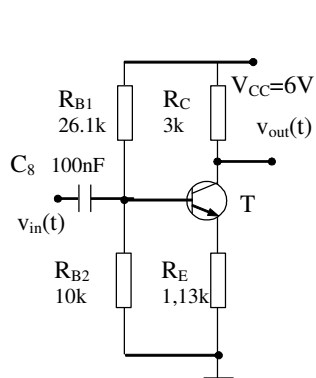
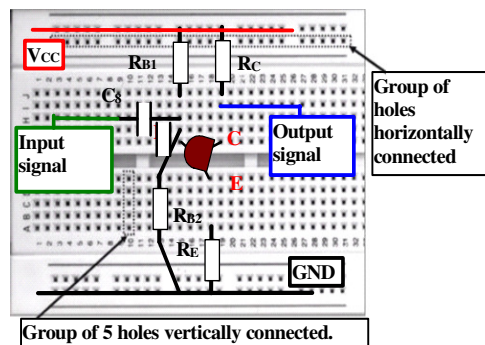

Fig. 2a) Electric schematics
Fig. 2b) Connections on solderless board
5. Measure the resistors (using the ohmmeter). Build the distributed-load amplifier in Fig. 2a on the solderless board. In Fig. 2b, you will find a suggestion for placing the components on the solderless board.